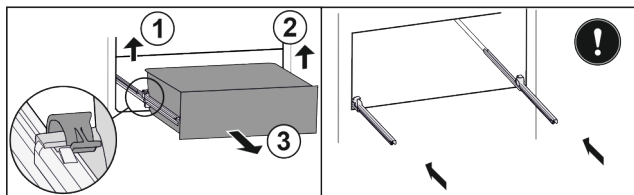

Fig. 36*
- ▶ Lift the left clamp and simultaneously pull the drawer on the left to the front Fig. 36 (1).*
- ▶ Lift the right clamp and simultaneously pull the drawer on the right to the front Fig. 36 (2).*
- ▶ Remove the drawer to the front Fig. 36 (3).*